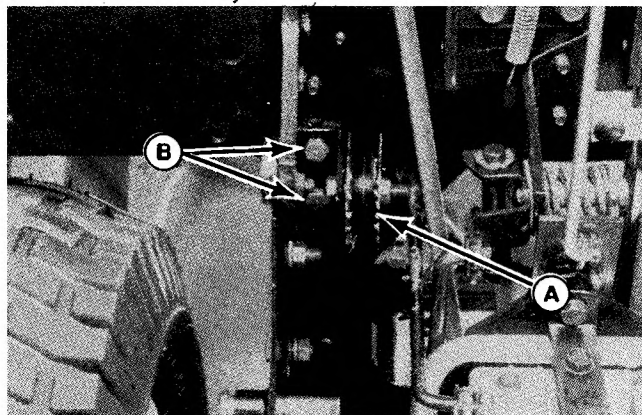

Figure 32.
6. With seat deck raised, install idler pulley bracket (A, Figure 32) to underside of tractor frame. Pulley must face towards the inside and front of tractor. Install two bolts (B) from the underside and secure with nuts under seat deck.